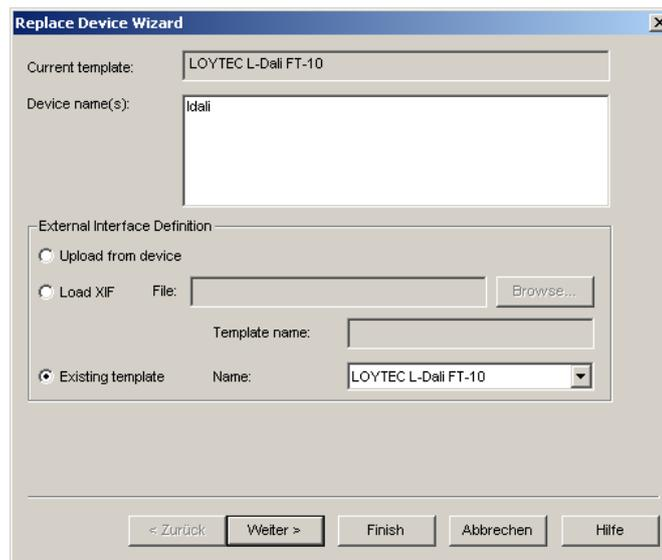

Figure 134: LonMaker replace device wizard.
2. Select **Commissioning** → **Replace...**. This opens the LonMaker Replace Device Wizard as shown in Figure 134.